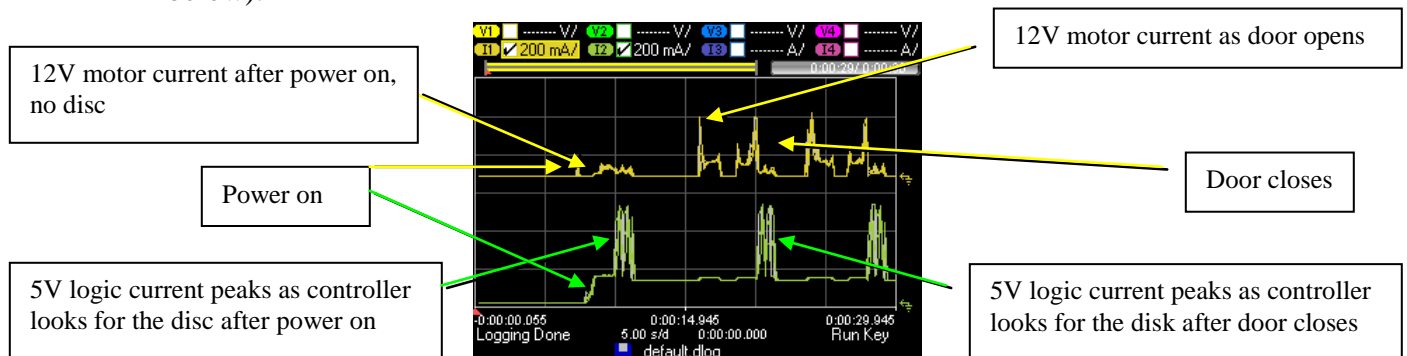

Figure 11 – Logged CD Drive Current Data
6. Once data is captured, you can use the “Vertical-Offset” and “Time / Div” knobs to zoom in on the waveform and inspect particular areas for more details (see Figure 11 below).